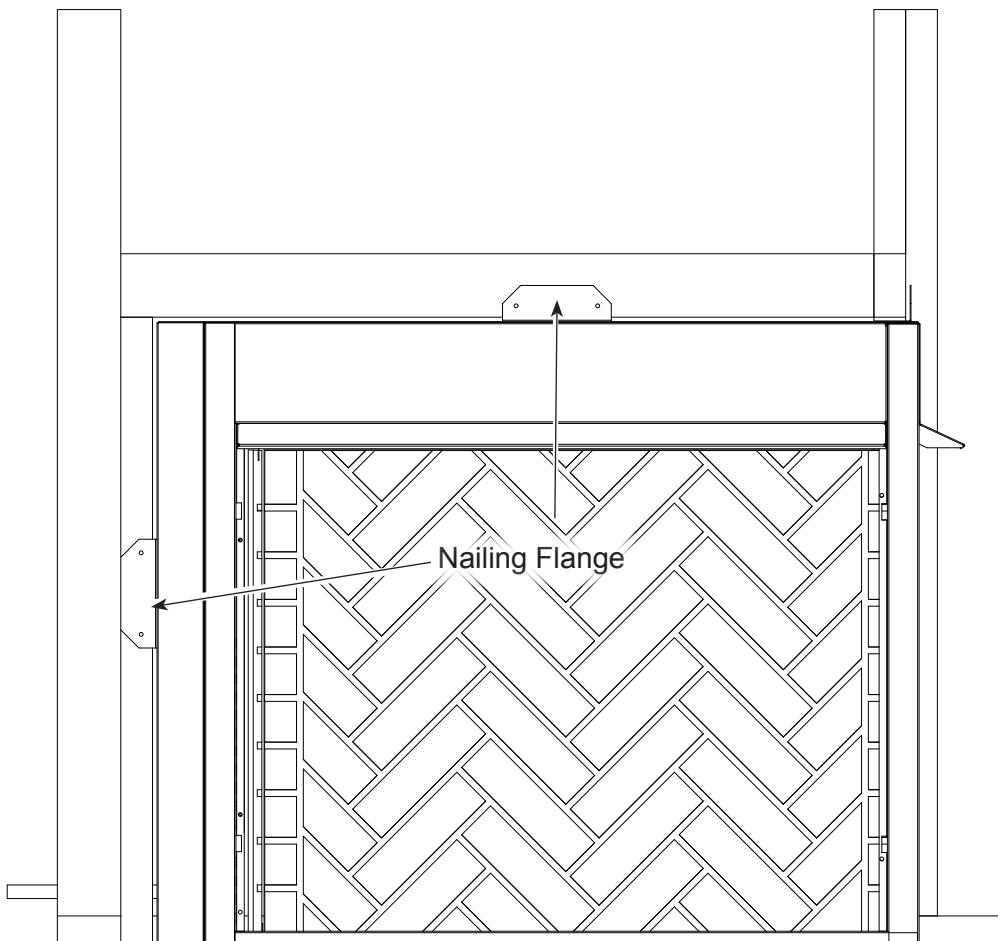

Figure 18 - Location of Nailing Flanges and Floor Screws
4. Attach nailing flanges to studs. **See Figure 18.**